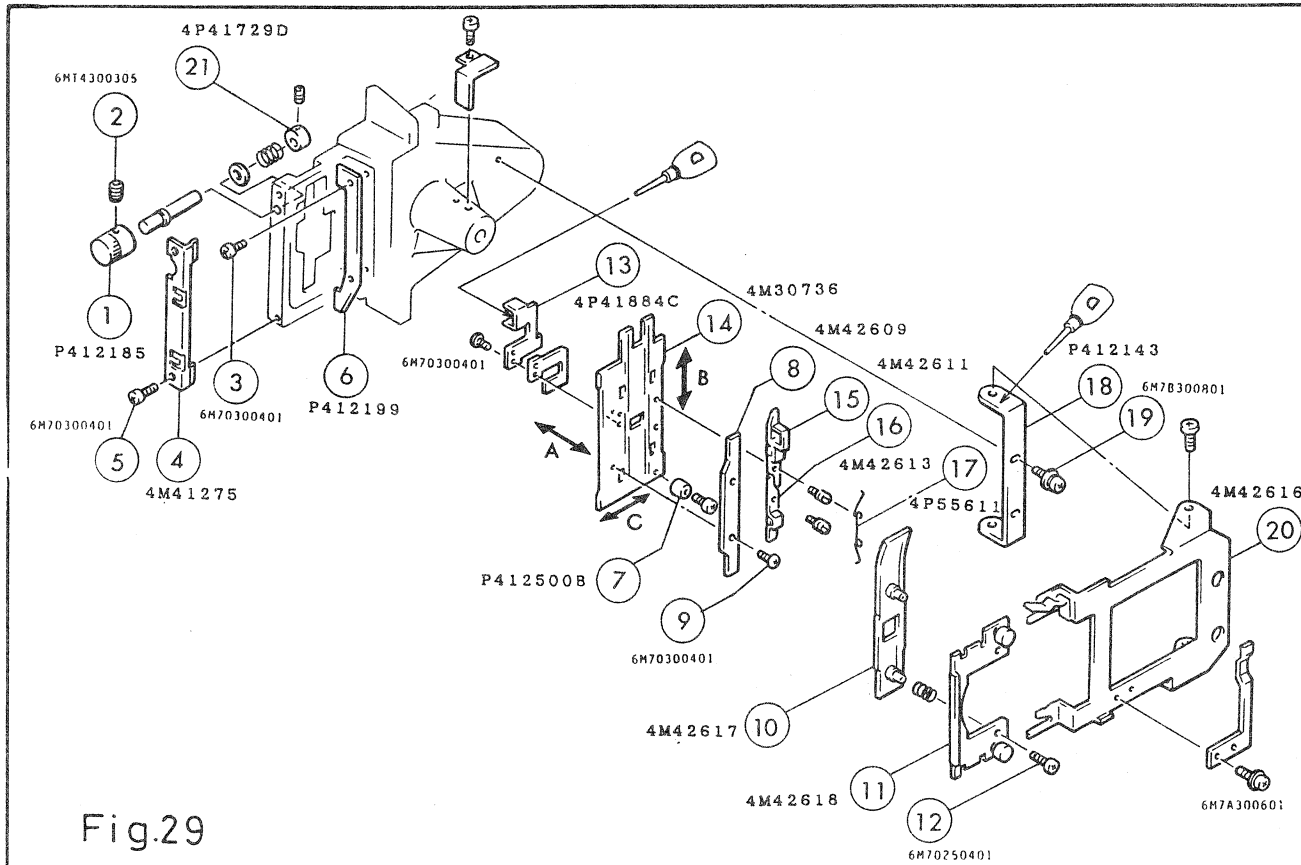

Fig.29
8. Since the film at self-loading is fed by first sprocket and accordingly, the feeding claw of film feeding section is not used, see to it that ⑩ and ⑭ in Fig. 29 are not closely contacted and that ⑮ and ⑯ are also open. Here, adjust the opening as well as the timing of opening of ⑮ and ⑯. Make adjustment by bending a section so that ⑮ gets pressed by ⑥ just before the a section of ⑰ comes off ⑮ when ⑰ is opened, and when ⑰ is closed there is a gap in [b] section to keep ⑰ and ⑮ apart as shown in Fig. 34.